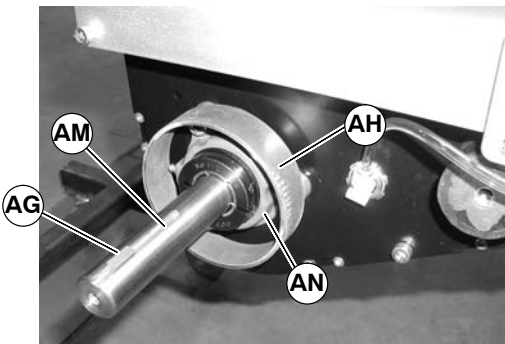
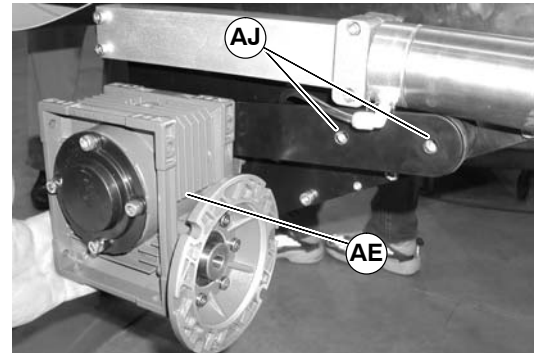

Figure 16
Figure 18
3. Install key (AG of Figure 16) on drive shaft(AM). Install cover (AH) over bearing housing (AN)
5. Slide gearmotor (AE of Figure 18) on to drive shaft (AM of Figure 16). Tighten mounting screws (AJ) to 200 in-lbs (22.5 N-m).